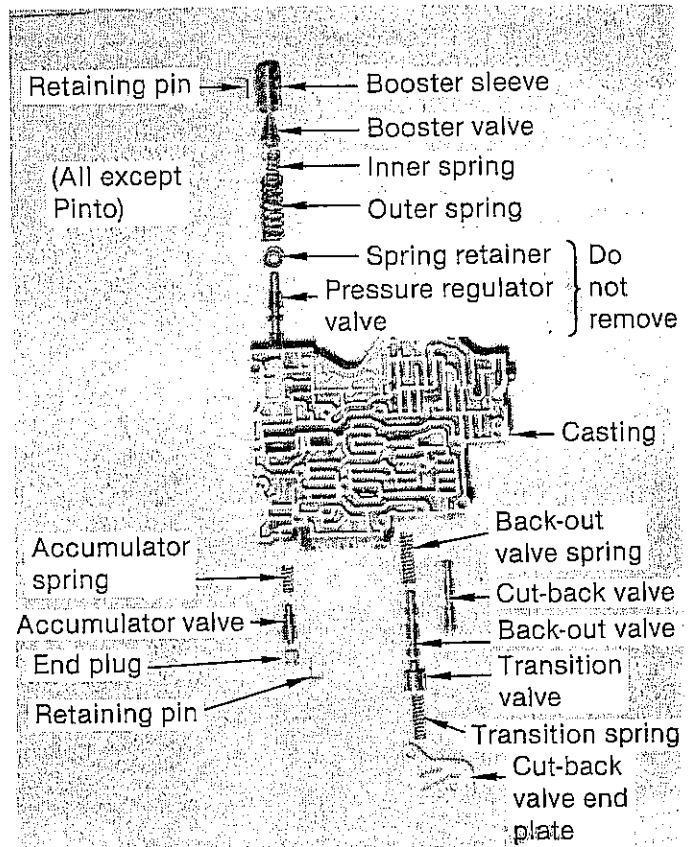

FIGURE 37
STEP 5. Remove the accumulator valve end plug. (See Fig. 37 or 37A) This plug is held in by a retaining pin. Push in on the plug to allow the pin to fall out. There is a spring underneath that will push the plug out. Remove the plug and the intermediate servo accumulator valve and spring. Install accumulator valve first into bore and spring second. Install end plug as removed. Push in on
STEP 7. Remove the booster valve sleeve. This sleeve is held in by a retaining pin. (See Fig. 37 or 37A) Push in on the sleeve to allow the pin to fall out. There is a spring underneath that will push the sleeve and valve out. Remove the aluminum sleeve and valve. Remove the outer pressure regulator spring (large diameter) and replace it with the yellow spring from the kit.
ing back with passages facing up. Make sure that none of the retaining pins have fallen out (See Fig. 37).